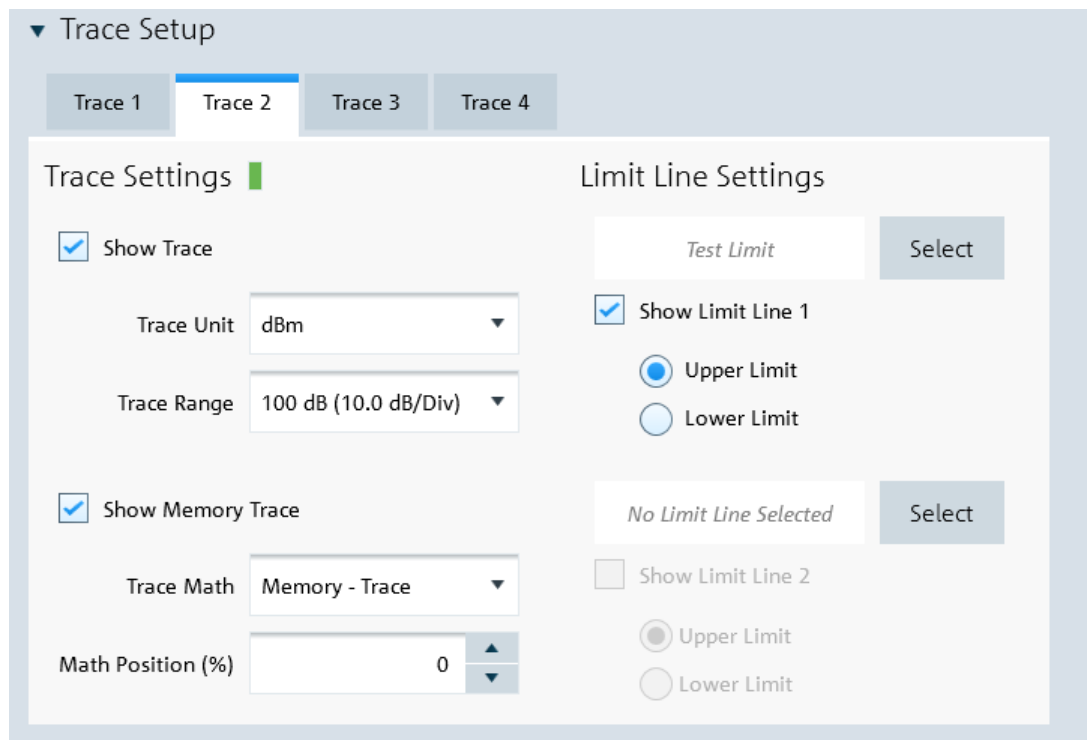

Figure 4-5: Trace setup
- Each trace is represented with a different trace color. If there is more than one trace in the same trace window, you can go to the individual trace tab to disable or enable the "Show Trace" checkbox to set the trace display. See Figure 4-5. The following "Trace Unit" and "Trace Range" are selectable: